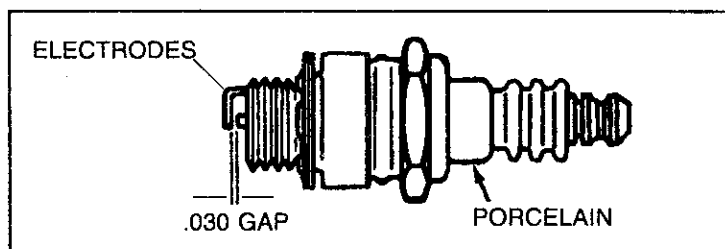

Figure 8
### ④ SPARK PLUG (see Figure 8):